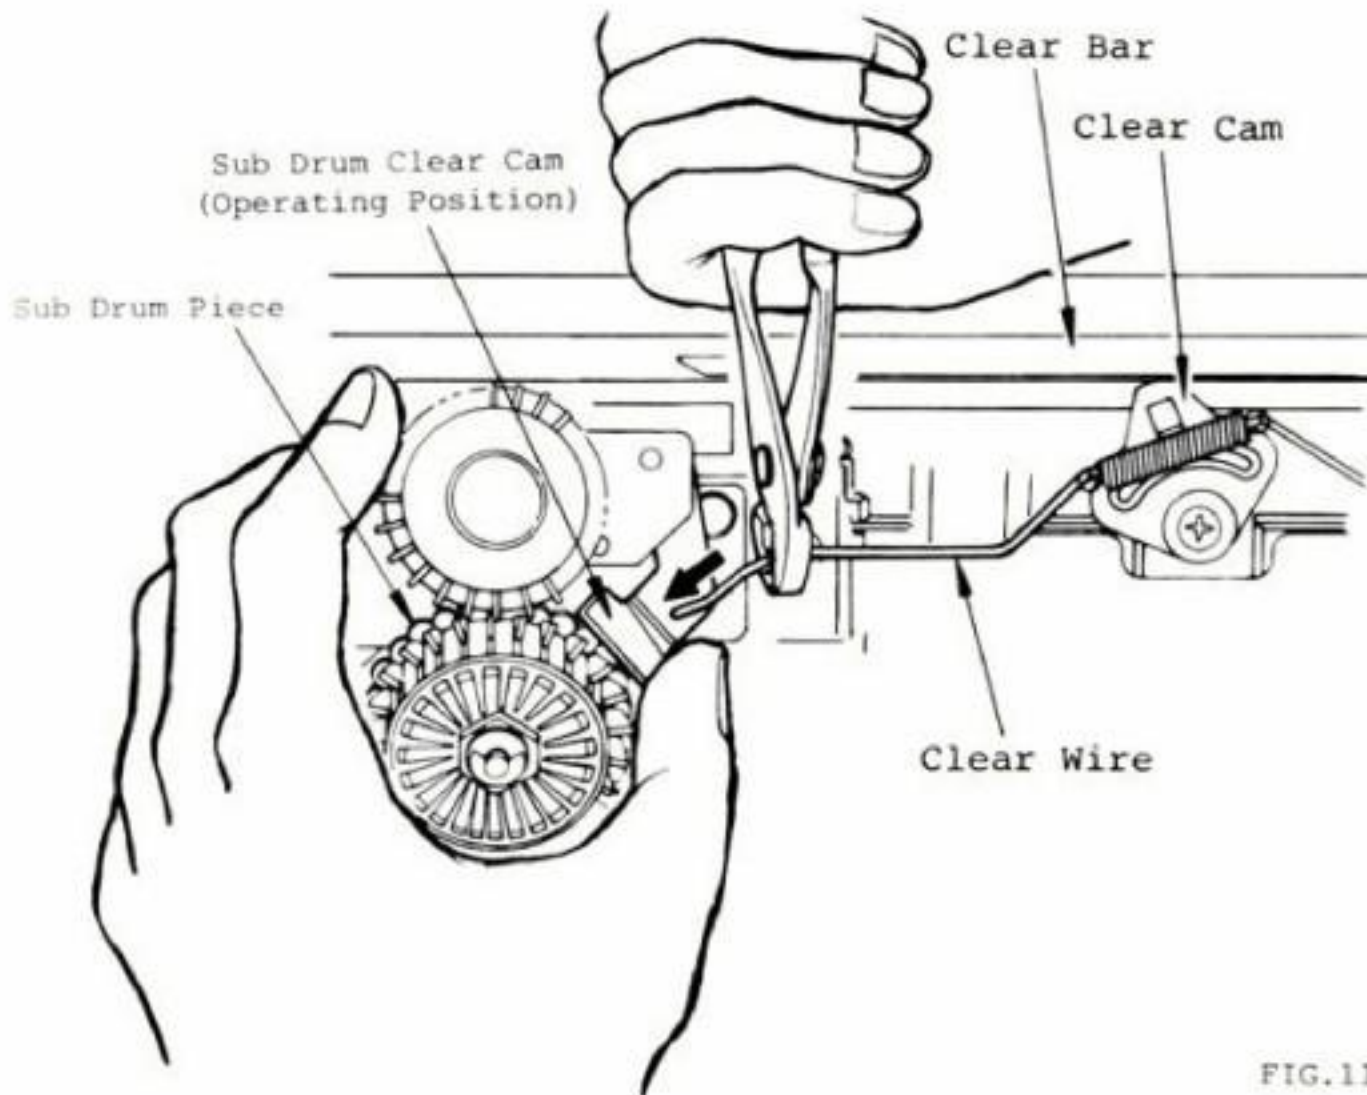

FIG. 11
1. Position the Carriage near center so that Clear Cam is actuated by Clear Bar as shown in Figure 11.